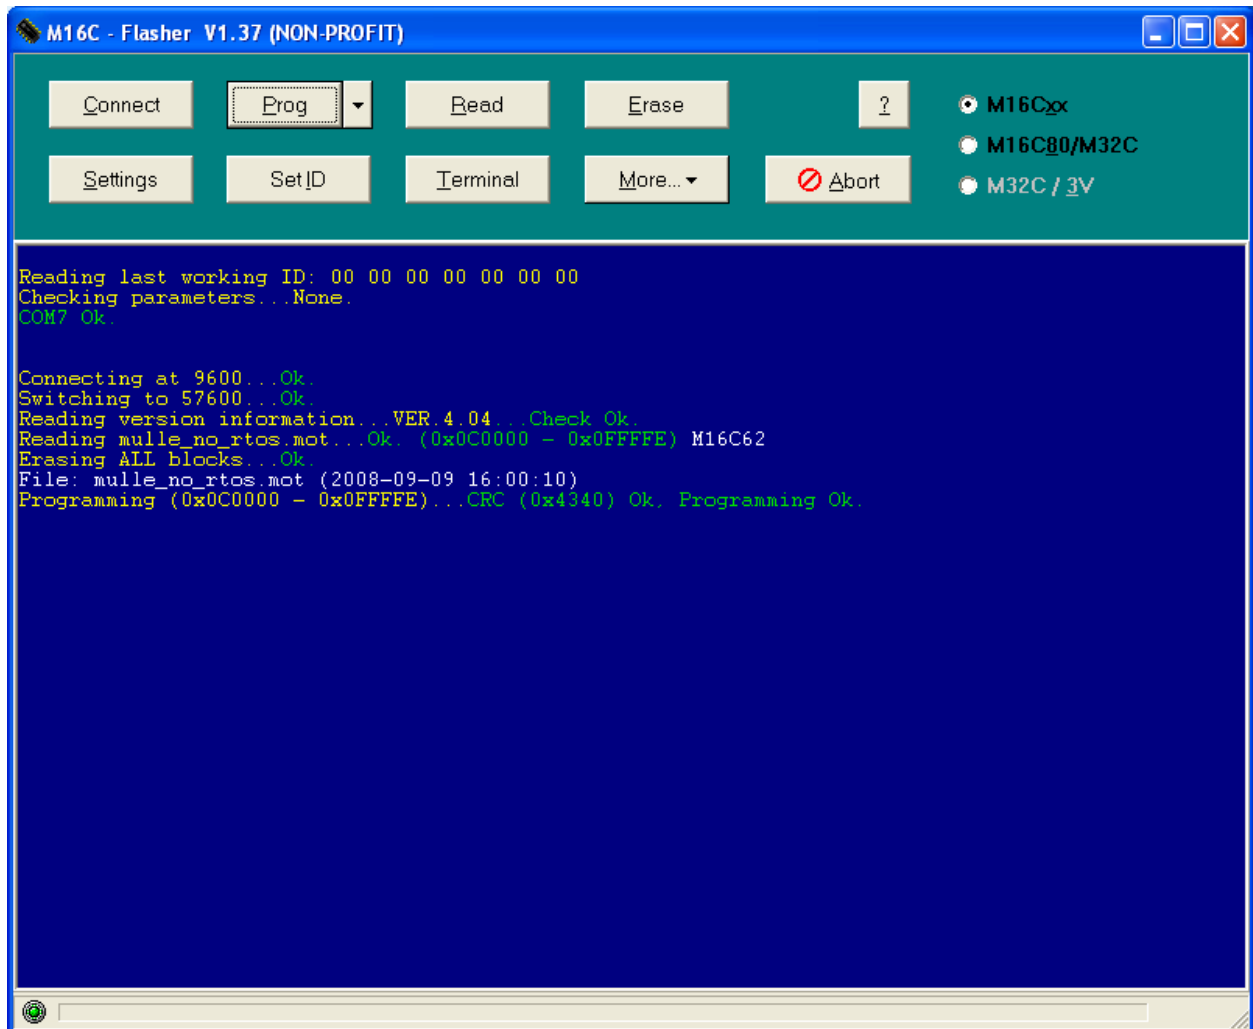

Figure 5: M16C Flasher. Download complete
8. When the download is complete, the M16C Flasher main window should look like Figure 5.